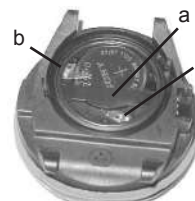

Fig. 135 - BATTERY COMPARTMENT
- Using care not to damage the Battery Contacts (Fig. 135 b/c), slide the Battery up and out of the right side of the Battery Compartment.